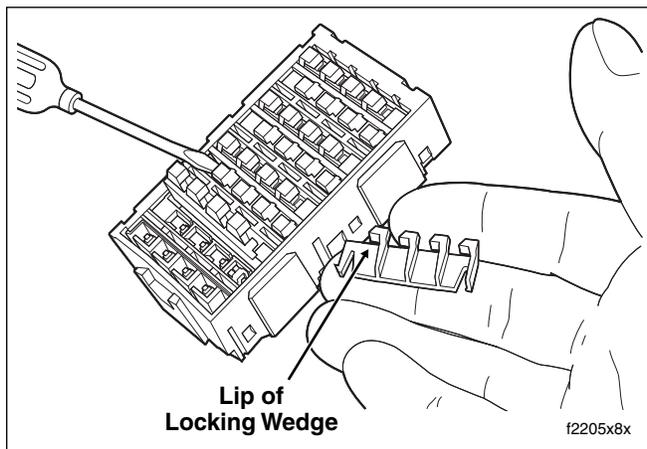

Figure 8-21. Remove Secondary Locks From Fuse Block
For best results, start with locking wedge on outboard side of secondary lock. See Figure 8-21.
- a. With the locking wedges positioned above the tangs in each chamber, slide flat side of secondary lock into slot (between rows), and push down until it bottoms. See Figure 8-21.